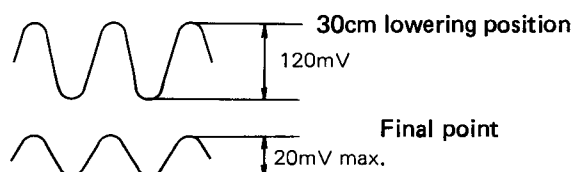

Fig. 9.11 Adjustment Waveform
6. Set the tonearm in the position where minimum amplitude was achieved, and readjust VR203 to obtain an amplitude of less than 20mVp-p (approx). (See Fig. 9.11).